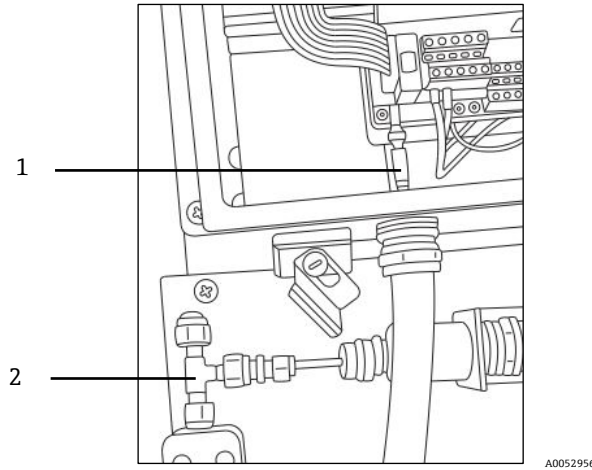

Figure 90. Remove connector nut (analyzer side)
11. Loosen the connector nut on the probe at the SMA connector inside the analyzer enclosure. Refer to Figure 90.